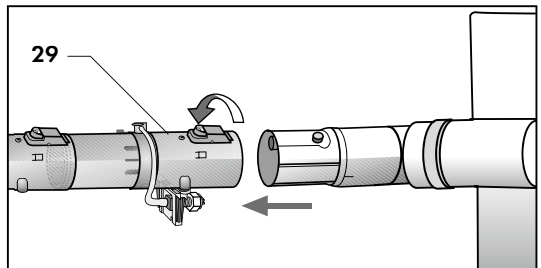

Fig. 14
- install the female end of the sprinkler to the end of the brush and rotate the ring to lock the two parts together ( Fig. 14)